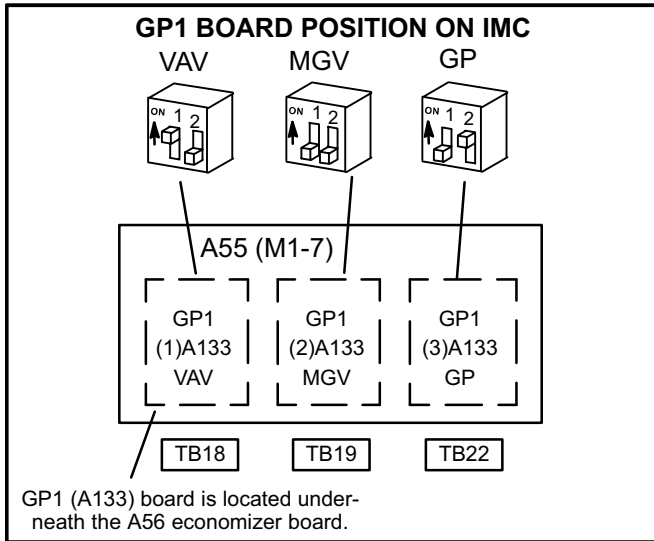

FIGURE 12
The mode is determined by the DIP switch setting and the position of the GP1 on the IMC. Each mode uses a different terminal block for field wired inputs and outputs. See figure 12.
This manual refers to the boards by function: VAV, MGV, and GP. Wiring diagrams refer to the boards numerically: (1) A133 for VAV, (2) A133 for MGV, and (3) A133 for GP as shown in figure 12. TB18, 19, and 22 are also specific to A133 function as shown in figure 12.